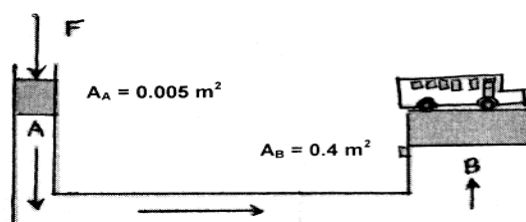

Fig. 2 Hydraulic lift
39. A van of 16,000N is to be lifted using a hydraulic lift as shown in Fig 2. Determine the force required to lift the